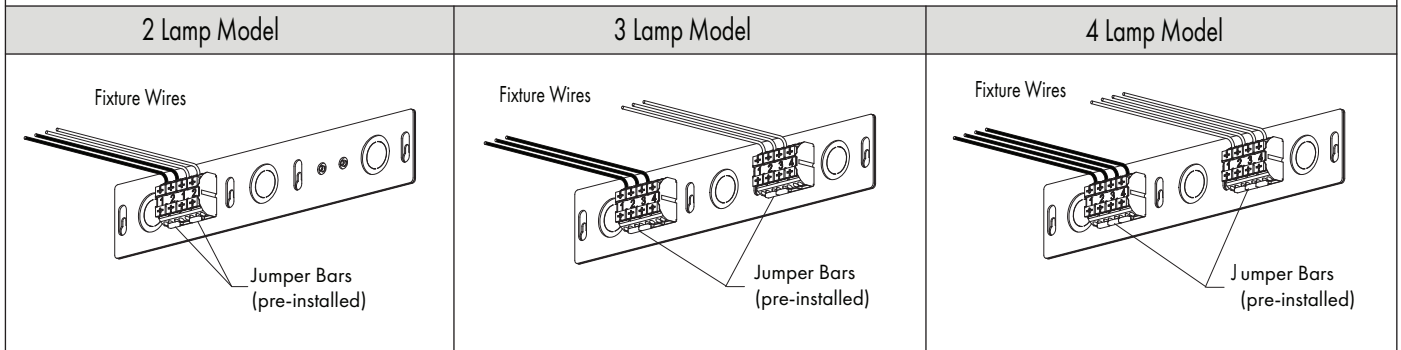

FIG 10.1 Jumper Bars
1. Ensure jumper bars are installed in terminal blocks as shown - FIG 10.1.